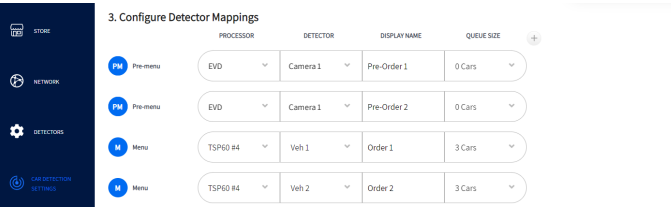

Fig. 5.7
8. Scroll down to Configure Detector Mappings. You will see the Pre-Menu EVD included. See top two rows of Fig. 5.7. Click the Save button to save changes.